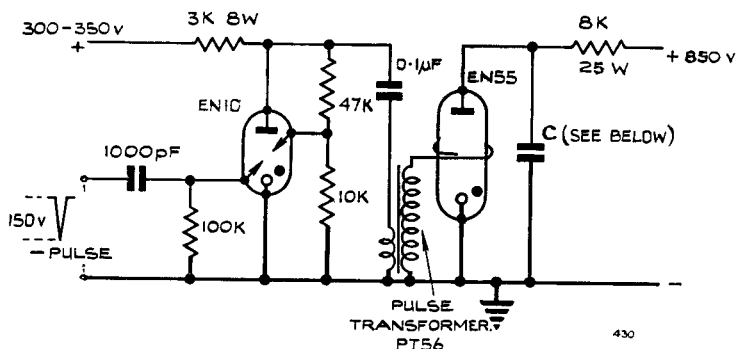

Fig. 1
- (1) For operation at frequencies from 5 to 250 c/s. The trigger pulse voltage may be satisfactorily derived from a trigger circuit using a 'NEOSTRON' type tube (EN10) as illustrated in Fig. 1. The controlled frequency pulse which is applied to the trigger electrode of the EN10 determines the flash frequency of the EN55. Further information on the operation of this circuit is contained in the EN10 data sheets.